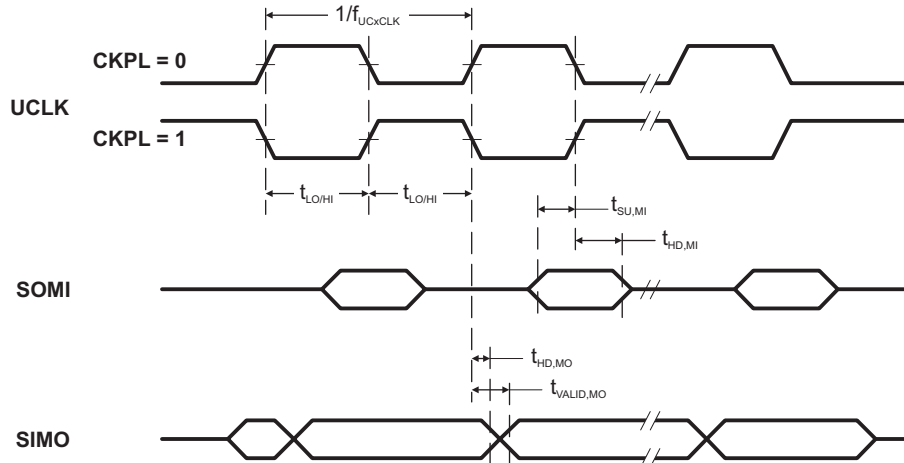
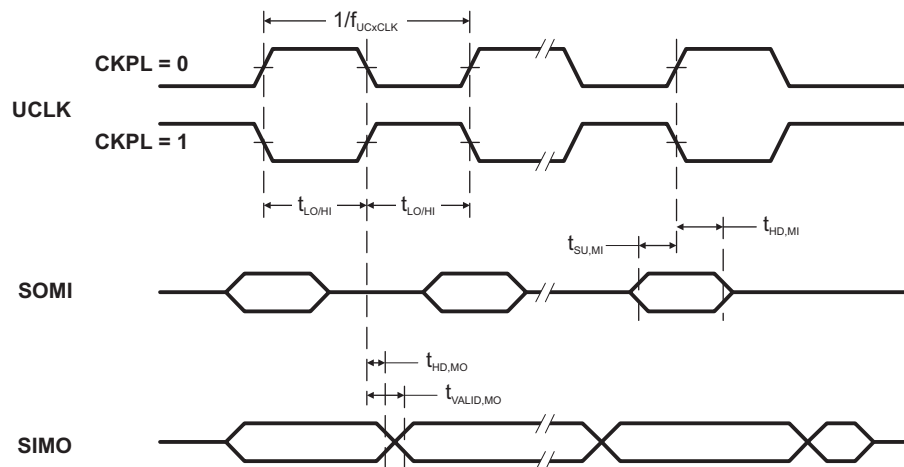

Figure 11. SPI Master Mode, CKPH = 0
Figure 12. SPI Master Mode, CKPH = 1
(see Note ⁽¹⁾, Figure 11 and Figure 12)
(2) Specifies the time to drive the next valid data to the SIMO output after the output changing UCLK clock edge. See the timing diagrams in Figure 11 and Figure 12.
(3) Specifies how long data on the SIMO output is valid after the output changing UCLK clock edge. Negative values indicate that the data on the SIMO output can become invalid before the output changing clock edge observed on UCLK. See the timing diagrams in Figure 11 and Figure 12.
(2) Specifies the time to drive the next valid data to the SOMI output after the output changing UCLK clock edge. See the timing diagrams in Figure 11 and Figure 12.
(3) Specifies how long data on the SOMI output is valid after the output changing UCLK clock edge. See the timing diagrams in Figure 11 and Figure 12.